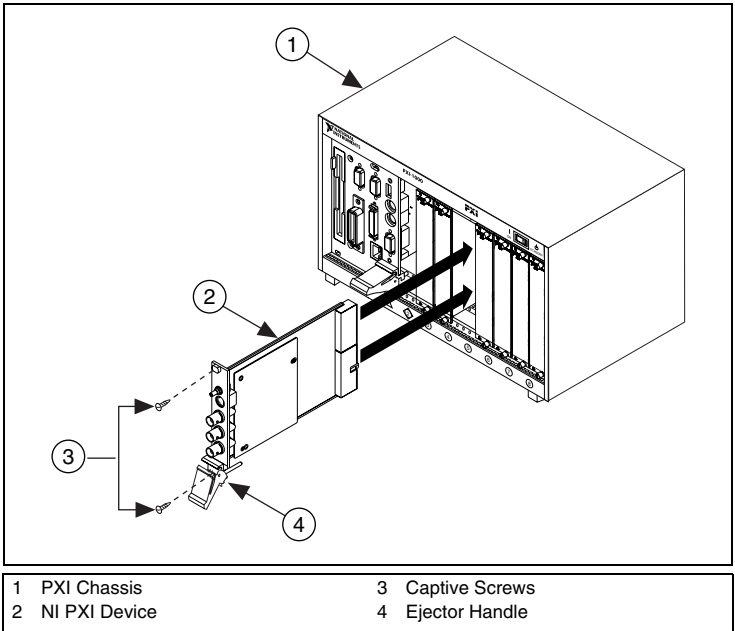

Figure 1. PXI Installation
5. Holding the device by the ejector handle, slide it into an empty slot, ensuring that the base card (the card on the left when you look at the front of the device) engages with the card guides in the chassis, as shown in Figure 1.